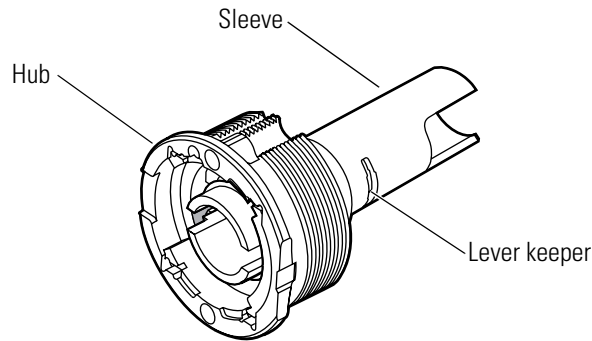

Figure 3.29 Removing the sleeve assembly from the hub
2. Press on the lever keeper, which protrudes through the cutout in the sleeve, as shown in Figure 3.29. Pull the sleeve out of the hub, keeping the lever keeper pushed in until it clears the hub.